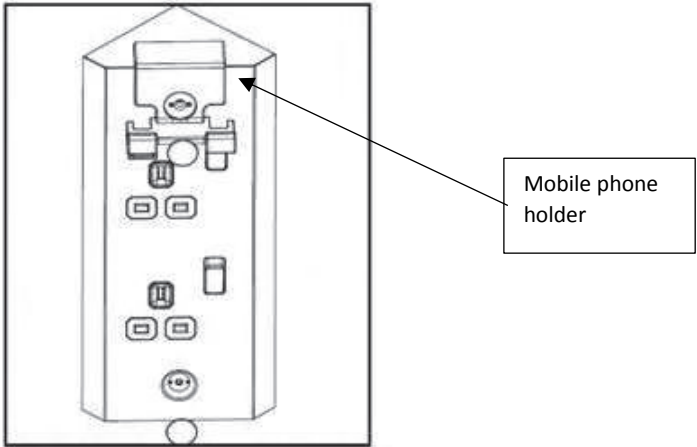

Fig. 4
- Attach the front cover plate and connect the mobile phone holder (optional) (see Fig. 4)